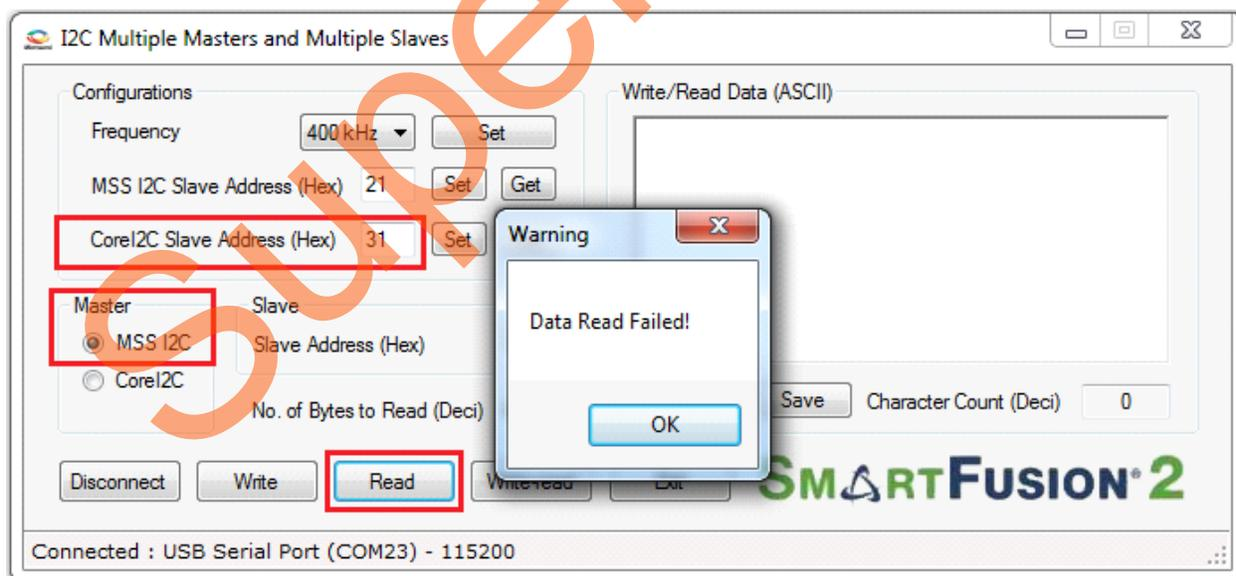

Figure 19 • Read Error
- Read or write error occurs due to the non-availability of the selected Slave or due to connection problem. To validate error detection, one of the I2C Slaves SDA line must be removed from the SmartFusion2 Evaluation Kit board. Remove either I2C Header - H1 (7) or GPIO Header - J1 (62) pin and perform an I2C transaction. Figure 19 shows the read error message when the MSS I2C Master tries to read from the CoreI2C Slave.
- Connect the removed flying lead to GND and perform an I2C transaction to test the time out. Figure 19 shows the time out message when the MSS I2C Master tries to read from the CoreI2C Slave.